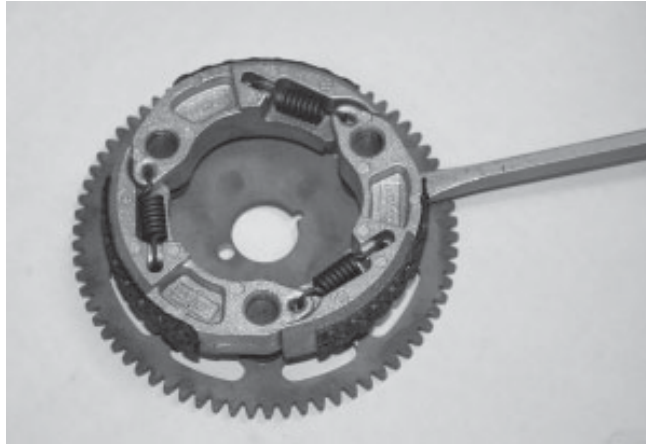

Fig. 54
- ⇒ Pull the centrifugal weights (Item 2) from the support bolts (Item 4) with a suitable tool, see Fig. 54.